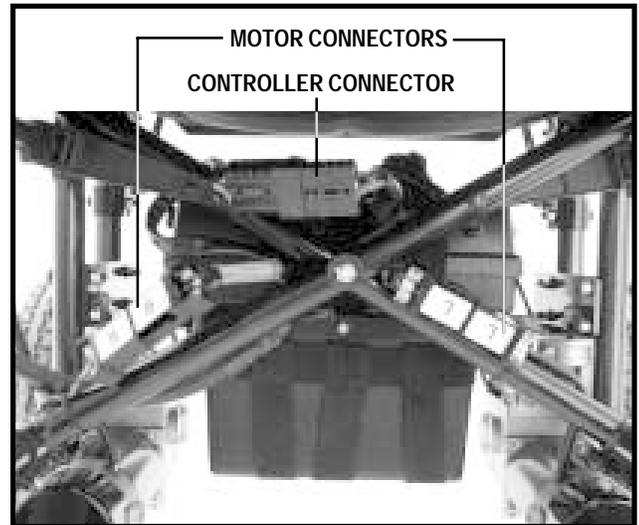

Figure 6. Front Electrical Connections
The controller is connected to the front battery box and to each motor. See figures 6 and 7. The motor connectors are marked “L” and “R”. The “L” harness is connected to the left motor and the “R” harness is connected to the right motor.
13. Connect the controller to the motors. The motor connectors are marked “L” for left and “R” for right. Match the “L” on the controller connector with the “L” on the motor. Match the “R” on the controller connector with the “R” on the motor. Connect the black connector to the controller connector. See figure 6.
1. Disconnect the electrical connections. See figures 6 and 7.